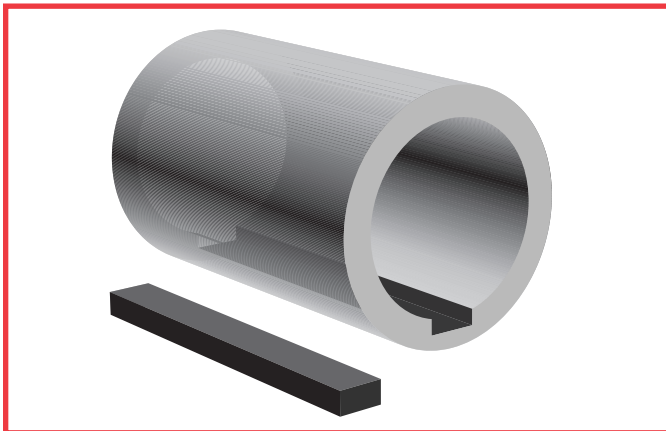

Figure 21. Coat with release agent.
2. **Apply** a thin layer of Loctite® Silicone Lubricant release agent to the key and to any area where you do not want the product to stick. (See figure 21)